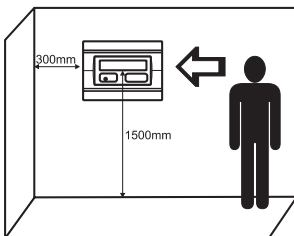

Figure 1.
- Select the best location for the panel away from sources of heat, environmental dust and potential water ingress, with an ambient temperature of between -5°C and $+40^{\circ}\text{C}$, Figure 1.